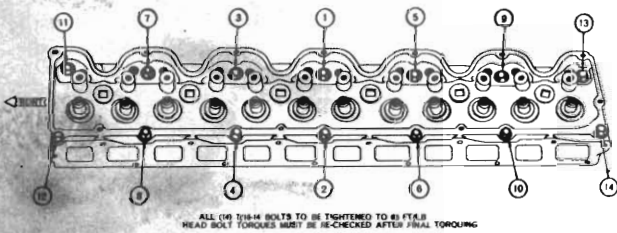

Fig. 7 - Cylinder head tightening sequence
(4) Lubricate the cleaned bolt threads and install cylinder head bolts; (short bolts nearest the push rods). Starting at the centre bolt, tighten all cylinder head bolts evenly to 50 lbs. ft. in sequence (refer Fig. 7). Repeat the procedure re-tightening all head bolts to 65 lbs. ft. (max.)